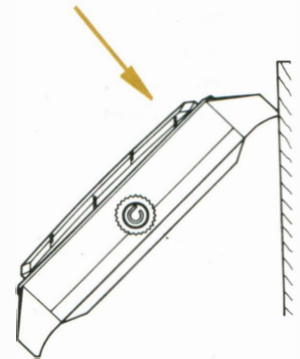

Fig. 3
(1) Remove the bezel.
- a. Put the lugs of the bezel on a working block or a desk and push firmly the upper side of the plastic glass from both ends with your thumbs. (Fig. 3).